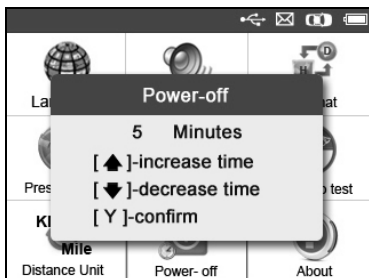

Figure 3.10
- 2) Press the **UP/DOWN** scroll button to increase or decrease the interval time for auto power-off, and then press the **Y** button to confirm your change or the **N** button to exit without change. (Figure 3.10)